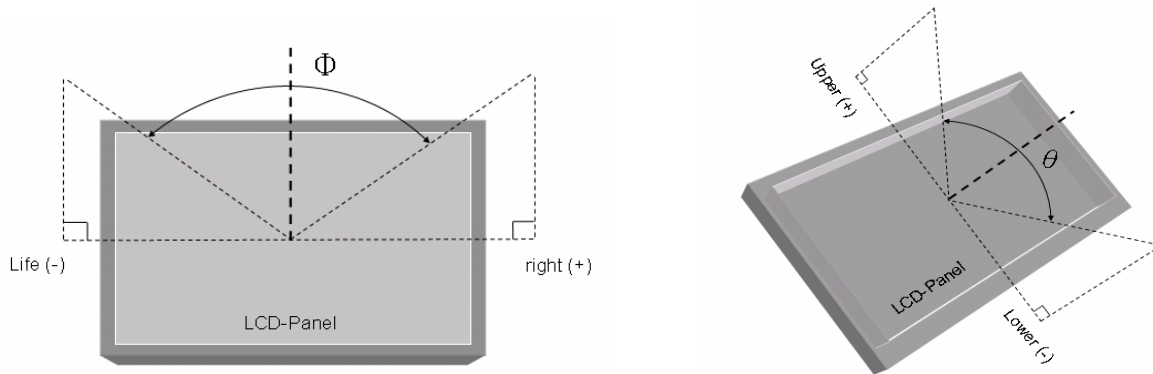

Fig9-2 Definition of Viewing Angle
*3) Definition of Viewing Angle(θ, ϕ), refer to Fig9-2 as below : (in the dark room.EZ-CONTRAST (ELDIM))